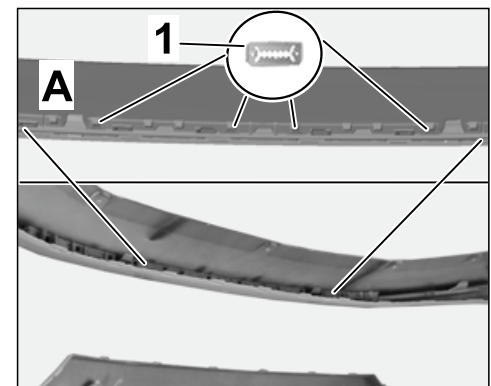

Figure 16
- 4.2 Using four clips ⇒ *Figure 16-1*-, also secure front spoiler to the front apron in area ⇒ *Figure 16-A*-